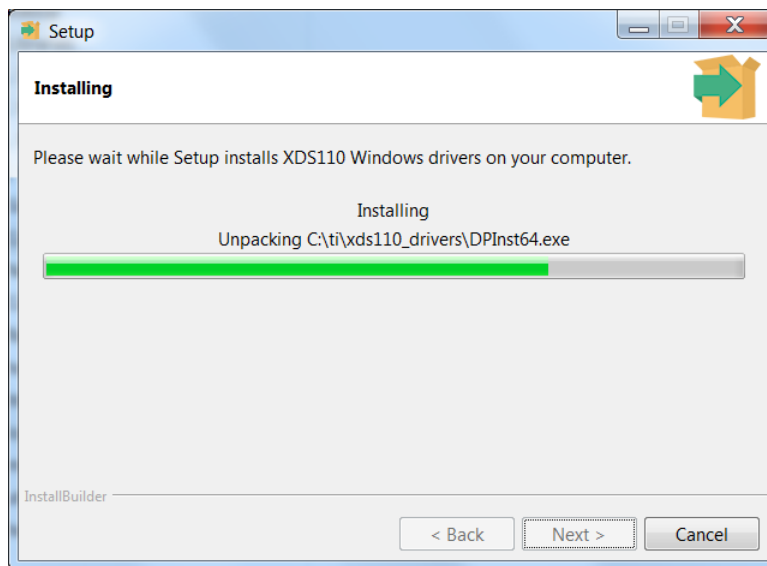

Figure 8. XDS110 Driver Installation Complete
- Click the Finish button after the installation is done (Figure 8).